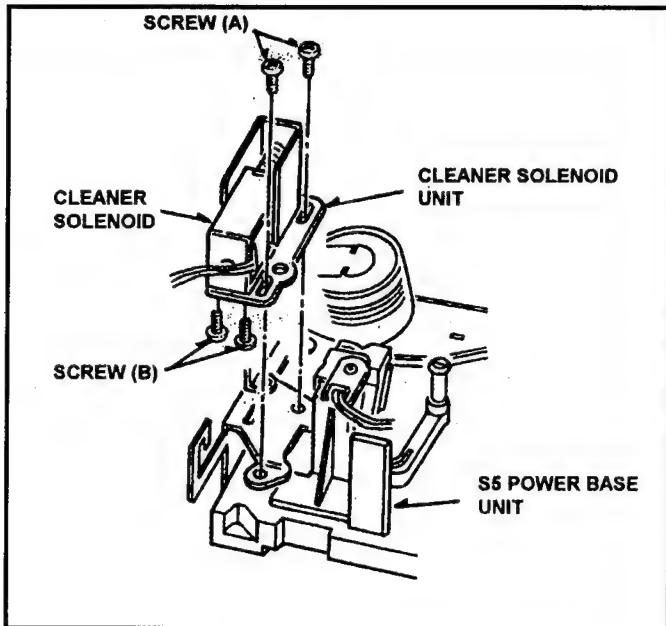

Fig. 4-15-1 Removal of Cleaner Solenoid
1. Remove the Mechanical Unit (Refer to item 2-1, Removal of Mechanical Unit).
3. Unscrew the 2 screws (A) and remove the Cleaner Solenoid Unit as shown in Figure 4-15-1.
4. Unscrew the 2 screws (B) and remove the Cleaner Solenoid as shown in Figure 4-15-1.